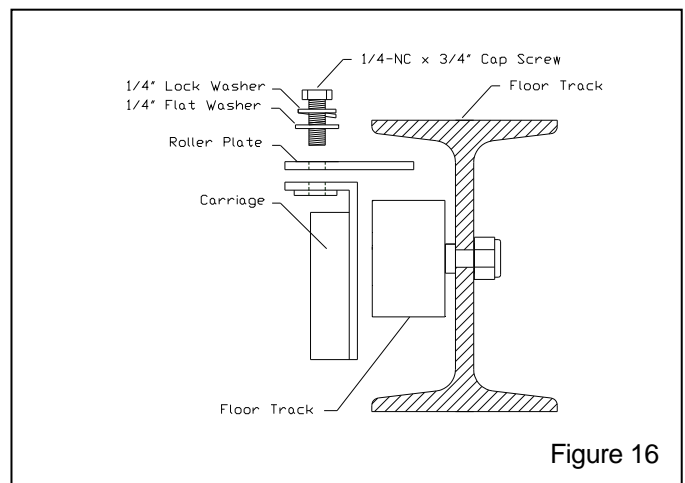

Figure 16
2.7.2.5 Use 1/4" fasteners to bolt the roller plate onto the carriage over each roller as shown in Figure 16. The edge of the roller plate should extend over the roller.